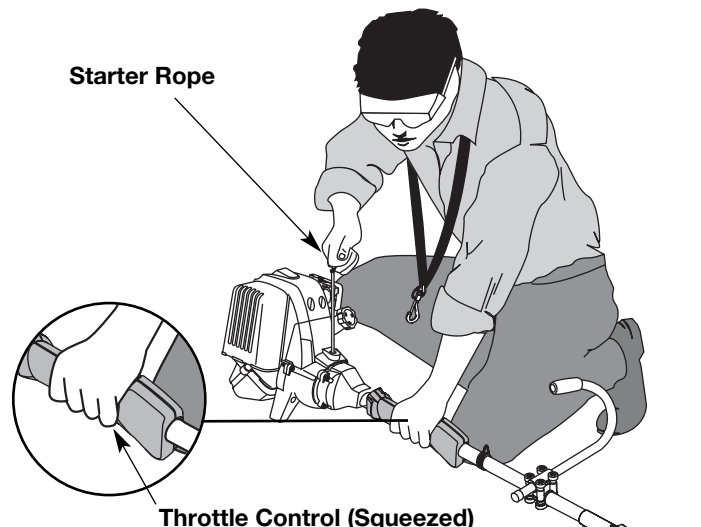

Fig. 13
5. With the unit in the starting position, **do not squeeze the throttle control** (Fig. 13). Pull the starter rope out a short distance, until you feel some resistance. This is usually around 2-4 inches. Then pull the rope smoothly and briskly. Repeat this 5 times. The engine should start.